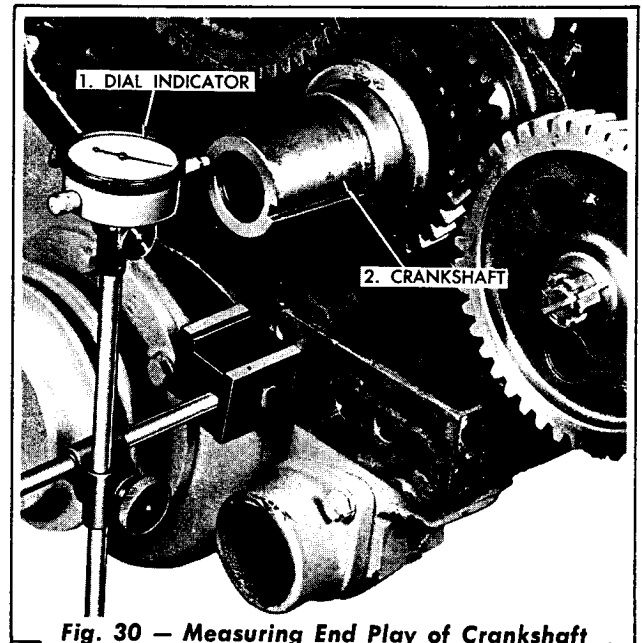

Fig. 30 — Measuring End Play of Crankshaft
5. Check the end play of the crankshaft, which is controlled by the doweled flanges on the center main bearing. The end play may be measured as shown in Fig. 30. The specified clearance is .006" to .014" and should not exceed .022"; replace the center main